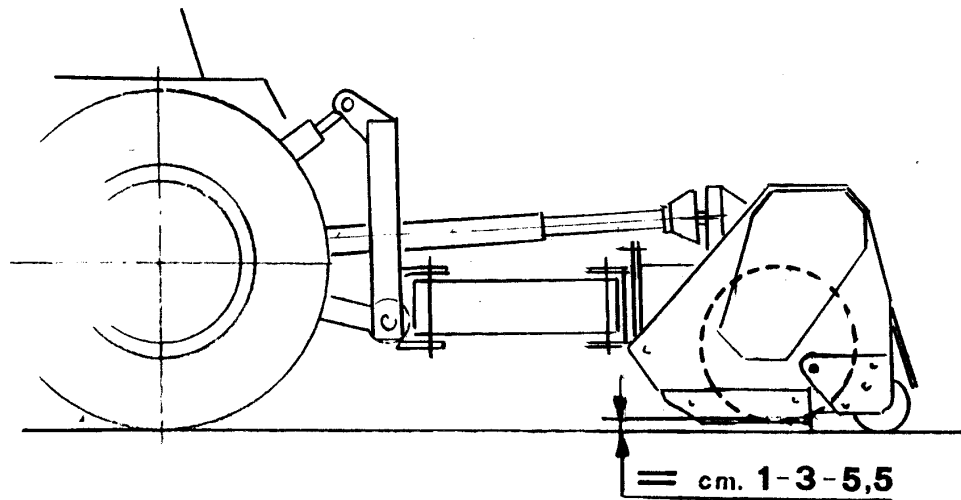

FIG. 19
Adjustment of the height of cut is obtained by shifting the flail head roller in order to suit the material to be cut and the required degree of chopping (FIG. 19).
- Adjust the height of cut, as shown in FIG. 19.